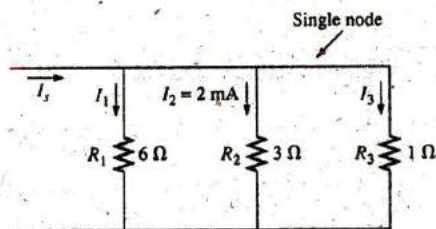

FIG. 6.39
- Determine currents I_1 and I_3 for the network in Fig. 6.39.